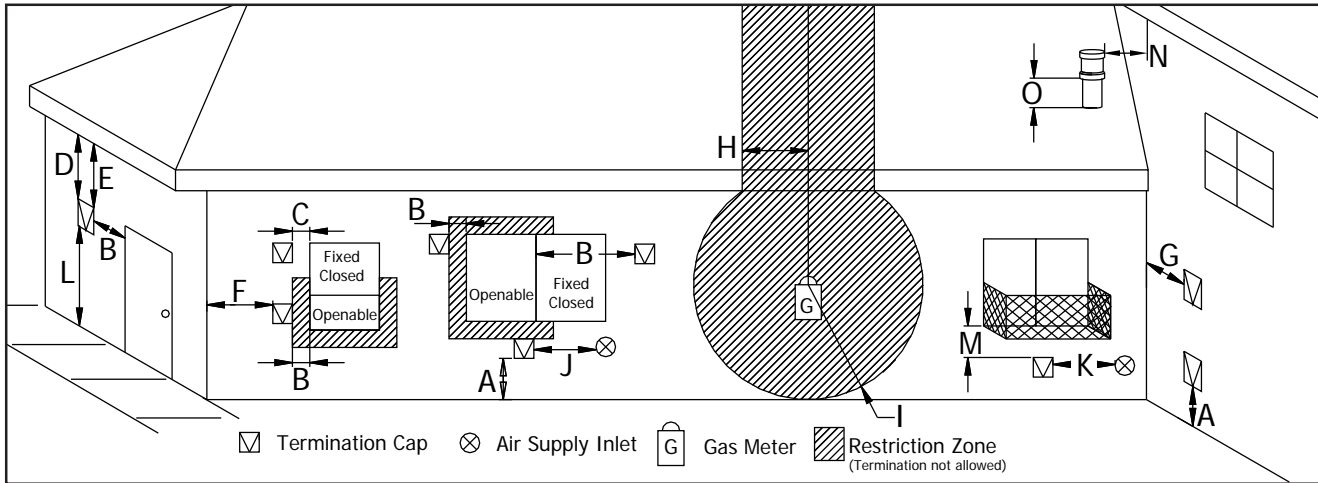
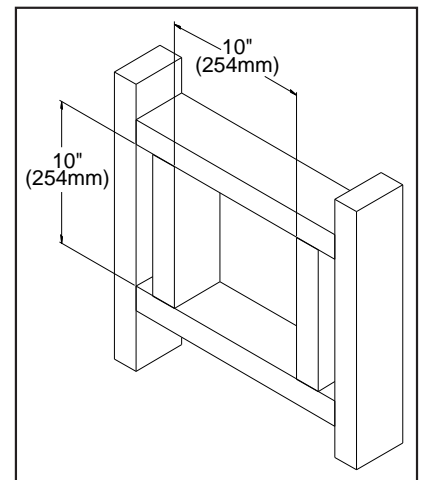

Figure 20: Vent Termination Restrictions, refer to Table 3.
Figure 24: Wall Framing Hole for Horizontal Installation.
Table 3: Vent termination clearances, refer to Figure 20.
3. With the pipe attached to the stove in the correct location, mark the wall for a 10" (25.4cm) x 10" (25.4 cm) square hole (refer to Figure 24). The center of the square hole should match the center line of the horizontal pipe. Cut and frame the 10" (25.4cm) x 10" (25.4cm) hole in the exterior wall where the vent will be terminated. Refer to Figure 20 and Table 3. If the wall being penetrated is constructed of non-combustible material i.e. masonry or concrete, a 7" (17.8cm) hole is acceptable.